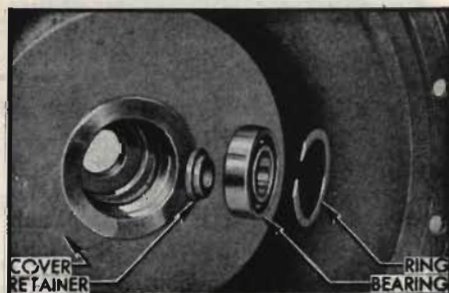

Fig. 30. Pilot bearing and retainers
6. Remove the pilot bearing retaining ring from the groove in the hub of the converter pump cover. Force the pilot bearing and bearing retainer from hub (Fig. 30).
1. Install the input shaft pilot bearing retainer in hub of converter pump cover, with shouldered side up. Press the pilot bearing into hub of cover so that outer race bears against the shoulder in hub. Install retaining ring (Fig. 30).